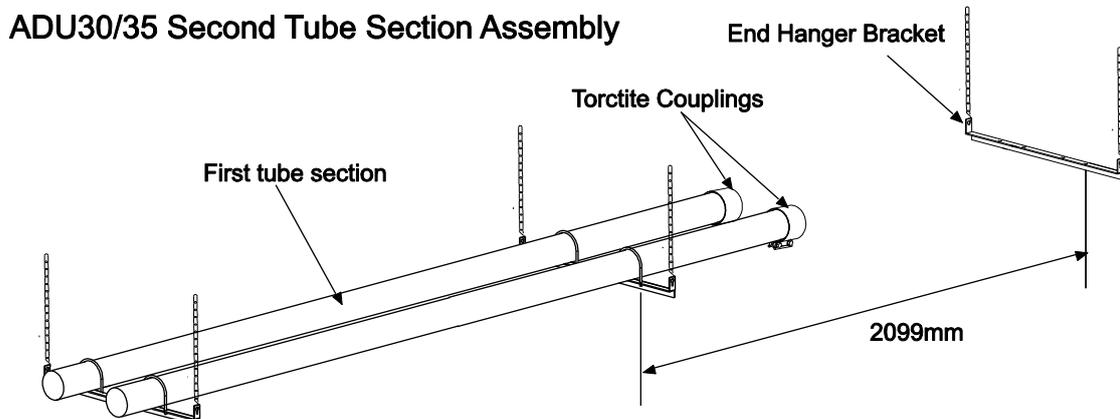

Fig. 21b
5. For models ADU 30/35 suspend the hanger bracket for the second section of tube, raise the tubes into position and join the tube sections together using Torcite couplings as described in Section 10.2 "**Tube Coupling Details**". Fasten the tubes to the hanger bracket. See figure 21b, c and d below for installation sequence.